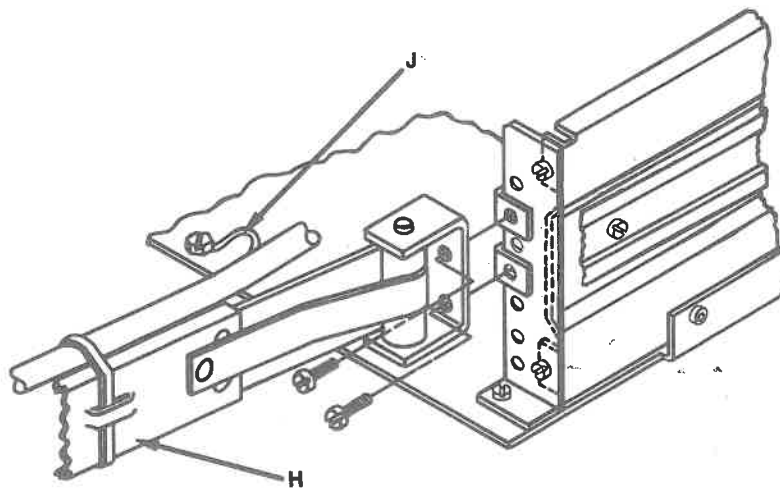

Figure 46
7. Using supplied hardware, attach cable carrier (H) to rear rack rail and rear of 6400 chassis. See Figure 46.
NOTE: Ensure that grounding wire (J) is attached to 6400 chassis (Figure 46).